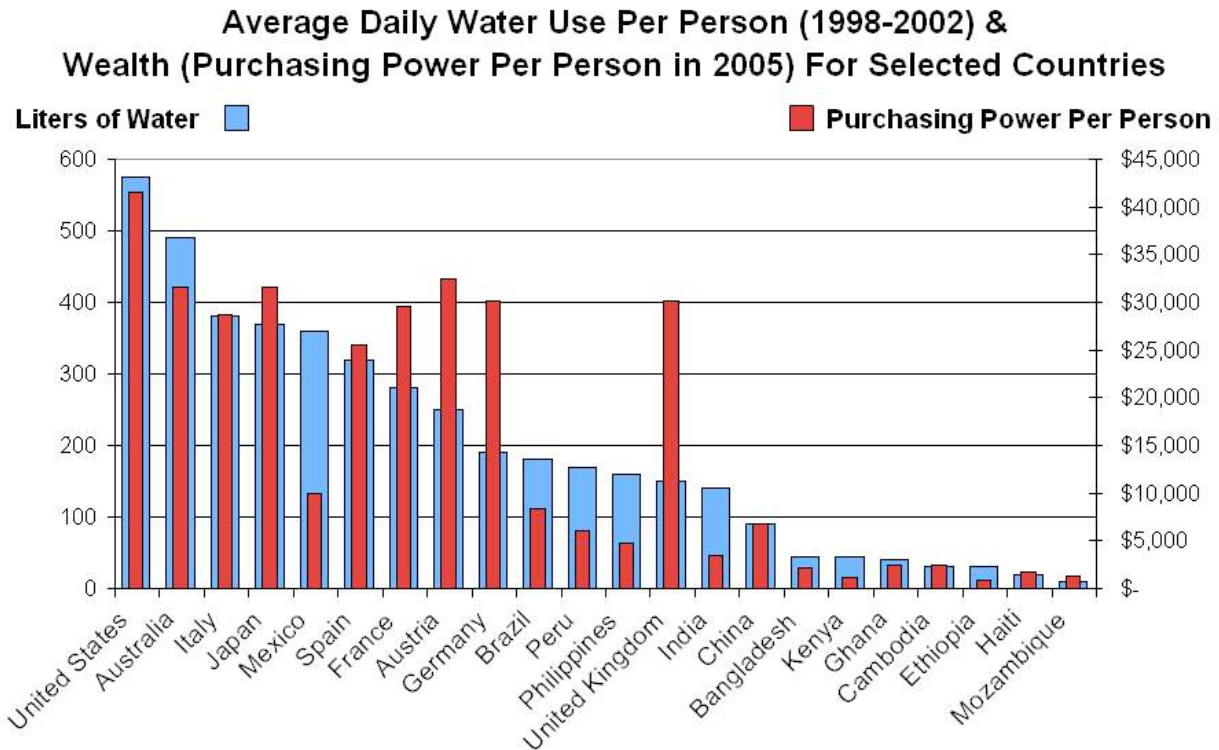

Figure 8. Average daily water use per person and wealth.
20. According to Figure 8, does there seem to be a relationship between a country's wealth and their average daily water consumption? If so, what is the relationship?